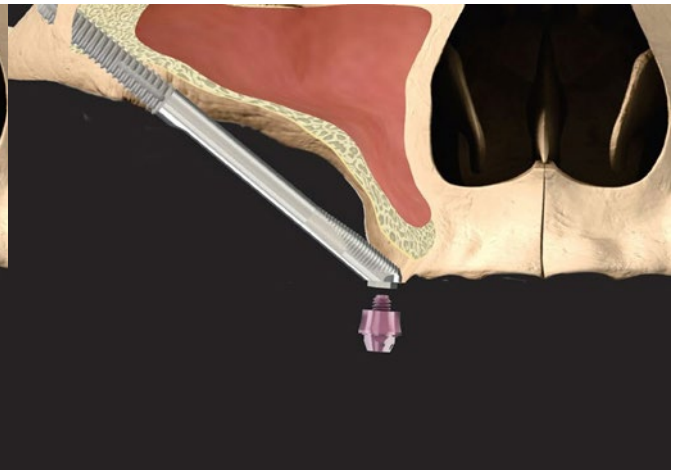

Figure 20
10. Should sufficient primary stability not be achieved for the implant, a cover screw (CH-CS) is placed with the dedicated driver (I-CS-HD) for a two-stage protocol. For immediate loading, a screw-retained abutment (CH-SRA) with an appropriate gingival height is picked up and placed with the dedicated screwdriver (046.401/046.411) (Figure 20). Suturing is then carried out according to the surgeon's preference.